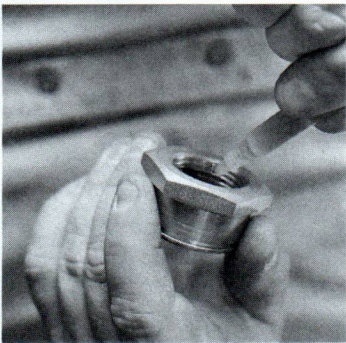

Figure 4. Adding Thread Locker to Nut
6. Install the new pitman arm nut. If you have a PSC Big Bore Steering Box, you will need the 8869-10 pitman arm nut. Make sure the sector shaft and sector shaft nut threads are clean, dry, and free of any oil or debris. Apply some of the provided threadlocker to the threads and torque to 184lb-ft. This torque spec applies to either the stock steering box or the PSC Big Bore box. Let the threadlocker cure for 24 hours before driving the jeep. Continue on with the rest of the 8869-04 assembly. See **Figure 4, 5, and 6.**